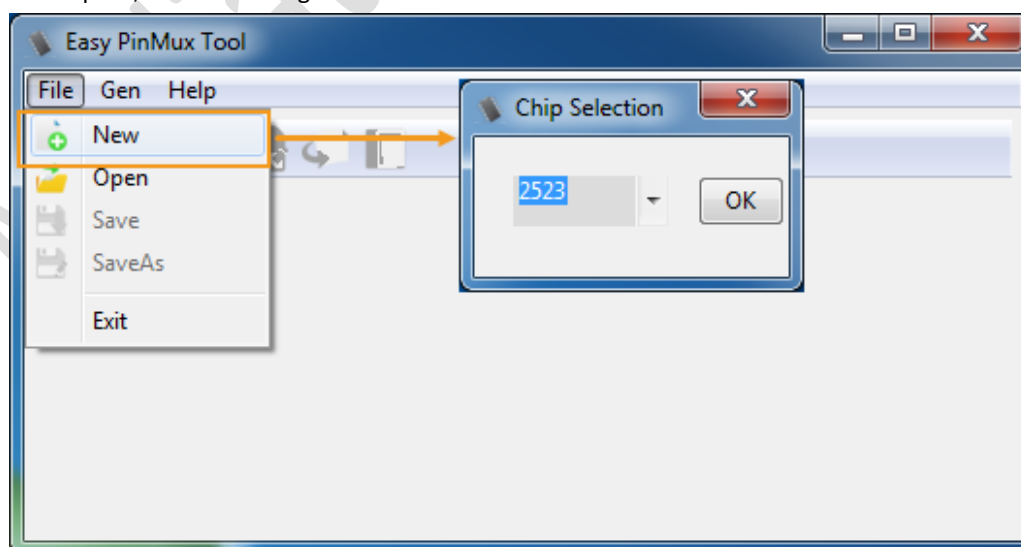

Figure 3. Create a new workspace
- 1) Go to the **File** menu, click **New**, and select the chipset under **Chip Selection** to create an empty workspace, as shown in Figure 3.